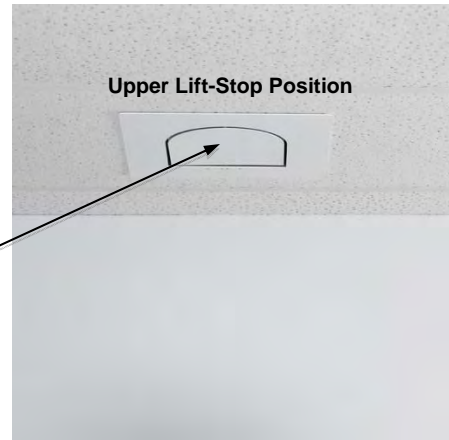

Figure 25:
- E. **Setting the Upper Lift Stop:** Move the lift upward and align the Lower White Décor Plate (the white plate below the camera) with the Ceiling Trim Ring (see Figure 25).